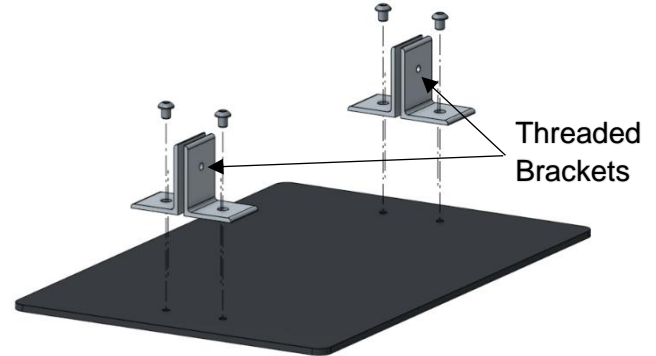

Figure 2
2. Using the provided 5/32" Allen Wrench, mount the (4) "L" brackets to the top of the base plate with the shorter 5/16" screws. Be sure to note there are (2) different "L" brackets included. (2) of the brackets are using through holes on both arms, and the other (2) brackets will instead have a threaded hole on the longer arm. The "L" brackets should be oriented facing back-to-back with the longer arm of the brackets sticking upwards. The threaded brackets should be facing the same edge as shown in Figure 2.